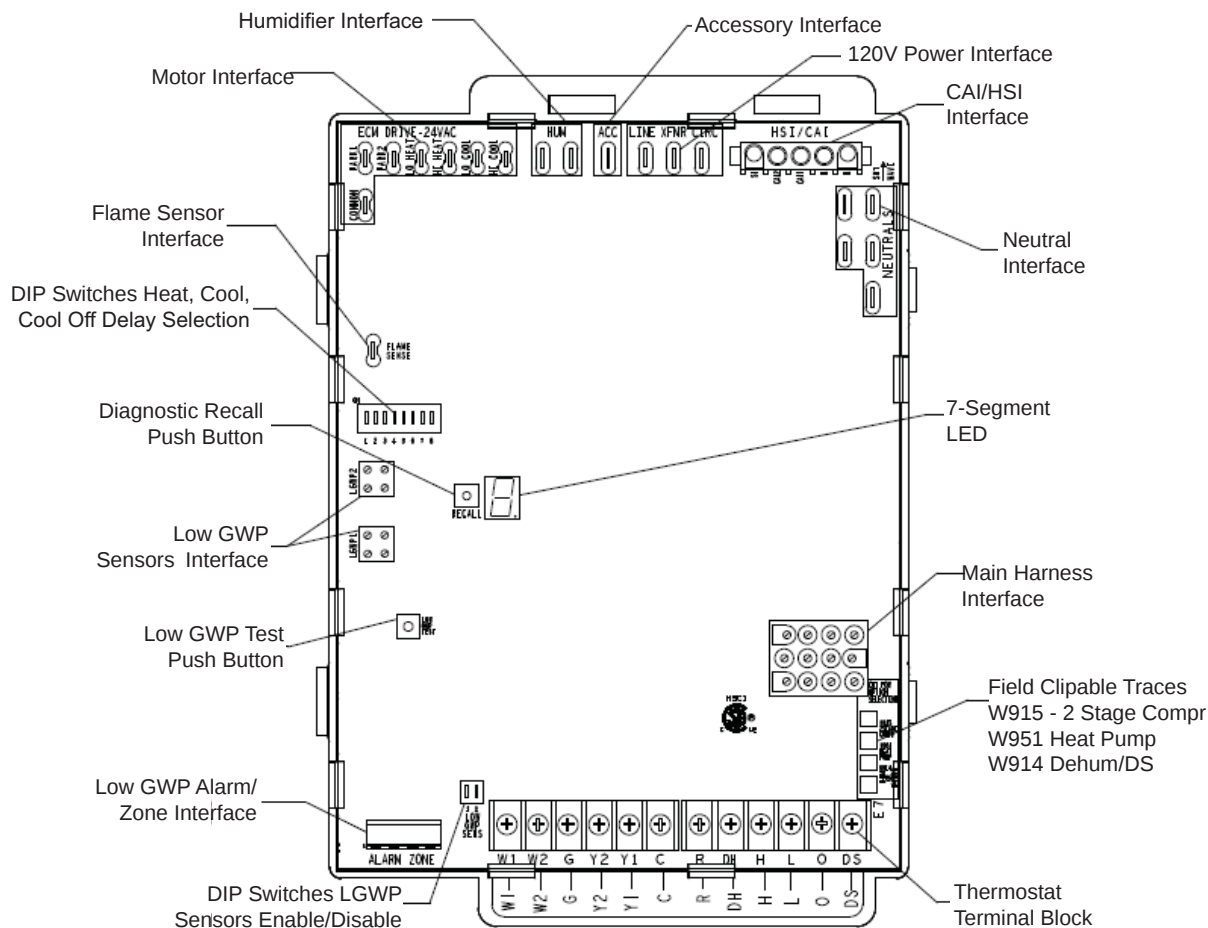

Figure 4.
Units are equipped a two-stage, ignition control. The system consists of a ignition / blower control (**Figure 4**) with control pin designations in **Table 1**, **Table 2**, **Table 3** and ignitor. The control and ignitor work in combination to ensure furnace ignition and ignitor durability. The control provides gas ignition, safety checks and indoor blower control with two-stage gas heating. The furnace combustion air inducer, gas valve and indoor blower are controlled in response to various system inputs such as thermostat signal, pressure and limit switch signal and flame signal. The control features a seven-segment LED display, indicating furnace status and error codes. The LED flashes in single digits. For example using **Table 4** under **LIMIT CODE**, an "E" followed by "2" followed by "5" followed by "0", the limit switch circuit is open. The control also has two unpowered (dry) 1/4" contacts for a humidifier and a 120 volt accessory terminal. Both rated at (1) one amp each.